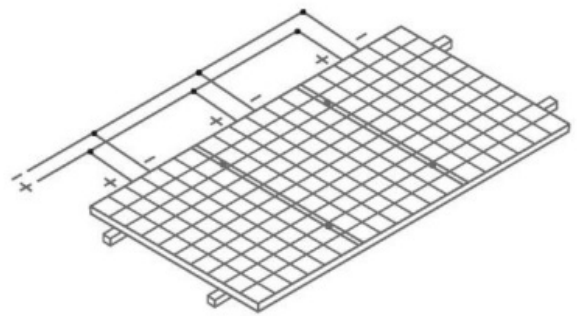

Figure 6 Connection in parallel
- When connected in parallel, the current output is equal to the sum of each string's current (as shown in Figure 6). A fuse is necessary for each module string. Take reference to the local regulation. Recommended maximum parallel Modules configurations:  $\text{Fuse rating} / (1.25 \times \text{short-circuit current})$ .